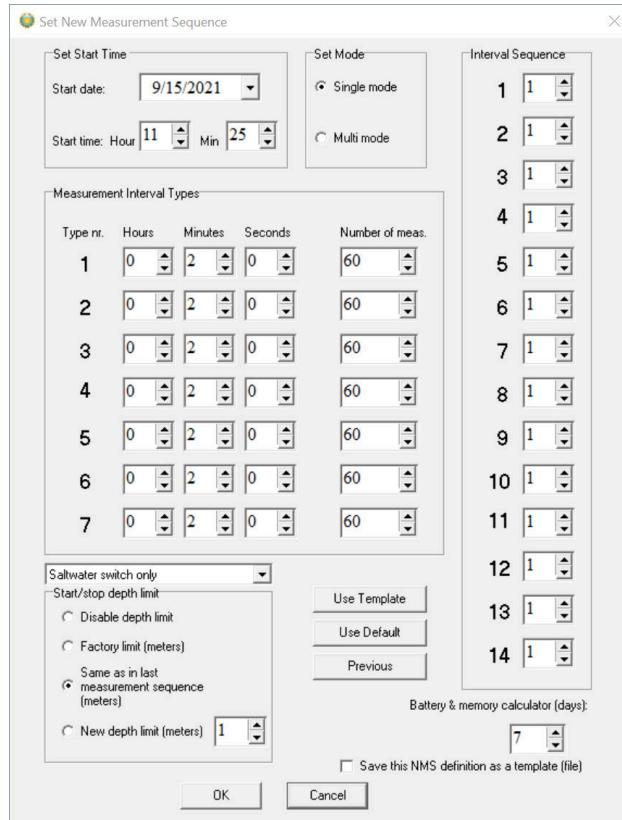

Figure 6.8: Setting new Measurement Sequence (with multiple intervals)
**Interval Sequence 1-14** The interval sequence must be filled out. As shown in figure 6.8, the user selects to use intervals 1-6 for the recordings. Another example: Suppose two of the first sampling intervals are used. In that case, the sequence should be 1, 2, 1, 2, etc., meaning that the recordings shift between the first and the second intervals, recording the defined number of measurement for the first interval, and then shifting to the second interval taking the number of measurements defined. The shifting between the intervals repeats until memory is full or until a connection is made through a PC computer.